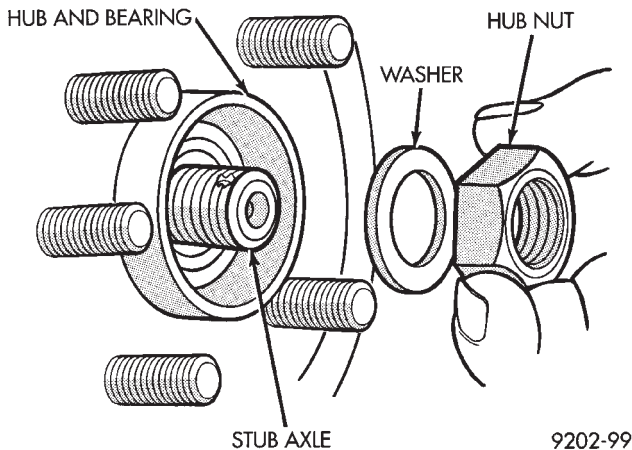

Fig. 27 Front Stub Axle Nut And Washer
(11) Clean all foreign matter from the threads of the outer C/V joint stub axle. Install washer and hub nut (Fig. 27) onto stub axle and tighten nut.